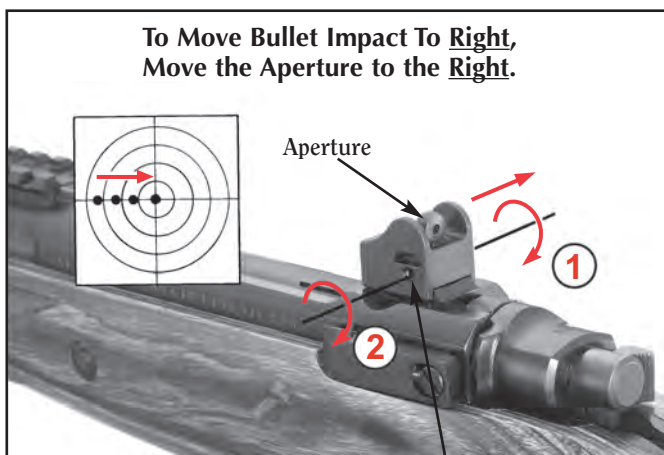

Figure 17a
1. Loosen the Combination Windage Adjustment and Locking Set Screw (turn it counter-clockwise using a 5/64 hex wrench) on the side that matches the direction of intended aperture travel (right side first to move aperture right, left side first to move aperture left). (See Figures 17a and 17b.) Full turns are not required and any portion of a turn is acceptable. One complete rotation of the hex screw will move the point of impact approximately 5 inches at 100 yards.
2. Tighten the opposite Windage Adjustment and Locking Set Screw. (See Figures 17a and 17b.) The aperture will be pushed and locked up against the screw that was adjusted in Step 1.